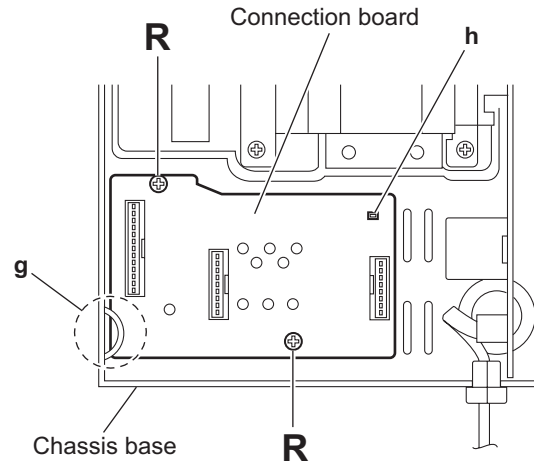

Fig.18
3.1.9 Removing the connection board (See Fig.18.)